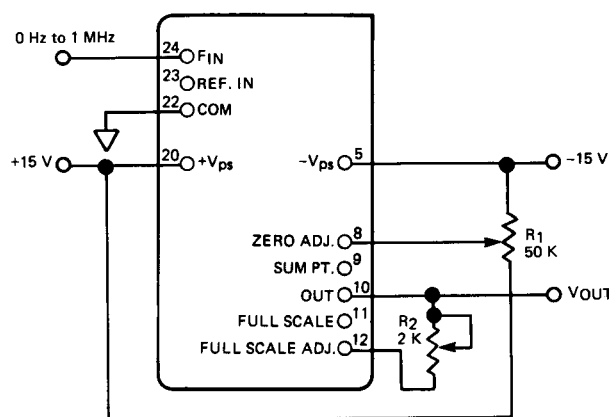

Figure 3. Zero and Full Scale Trim
Pin 11 can be used when accuracy to $\pm 0.1\%$ F.S. is needed with no external components. Pin 12 is usually used when greater accuracy is required using an external trim, see Figure 3. (Note: R₁ and R₂ should have low value temperature coefficients.)
1. Connect F_{in} pin to Common and adjust R₁ to provide 0.0000 V at V_{out}, see Figure 3.
3. Repeat (1) and (2) precise zero and Full Scale set.